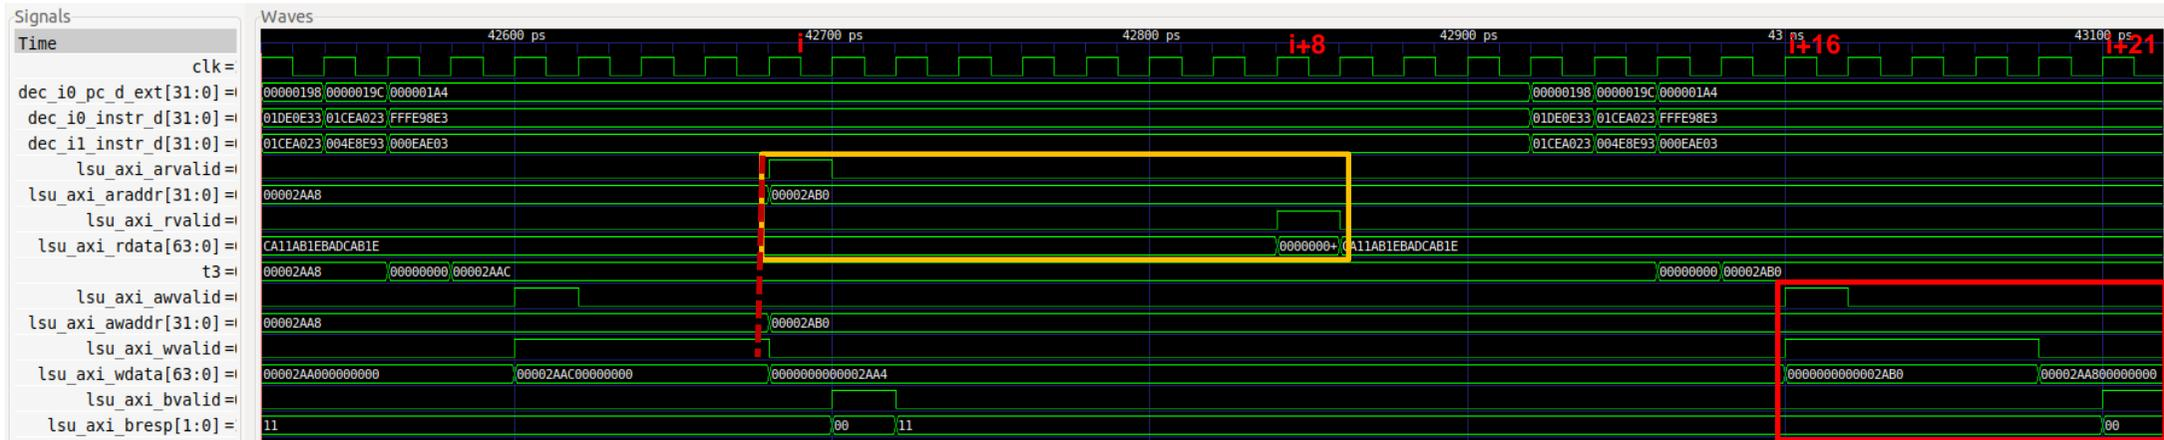
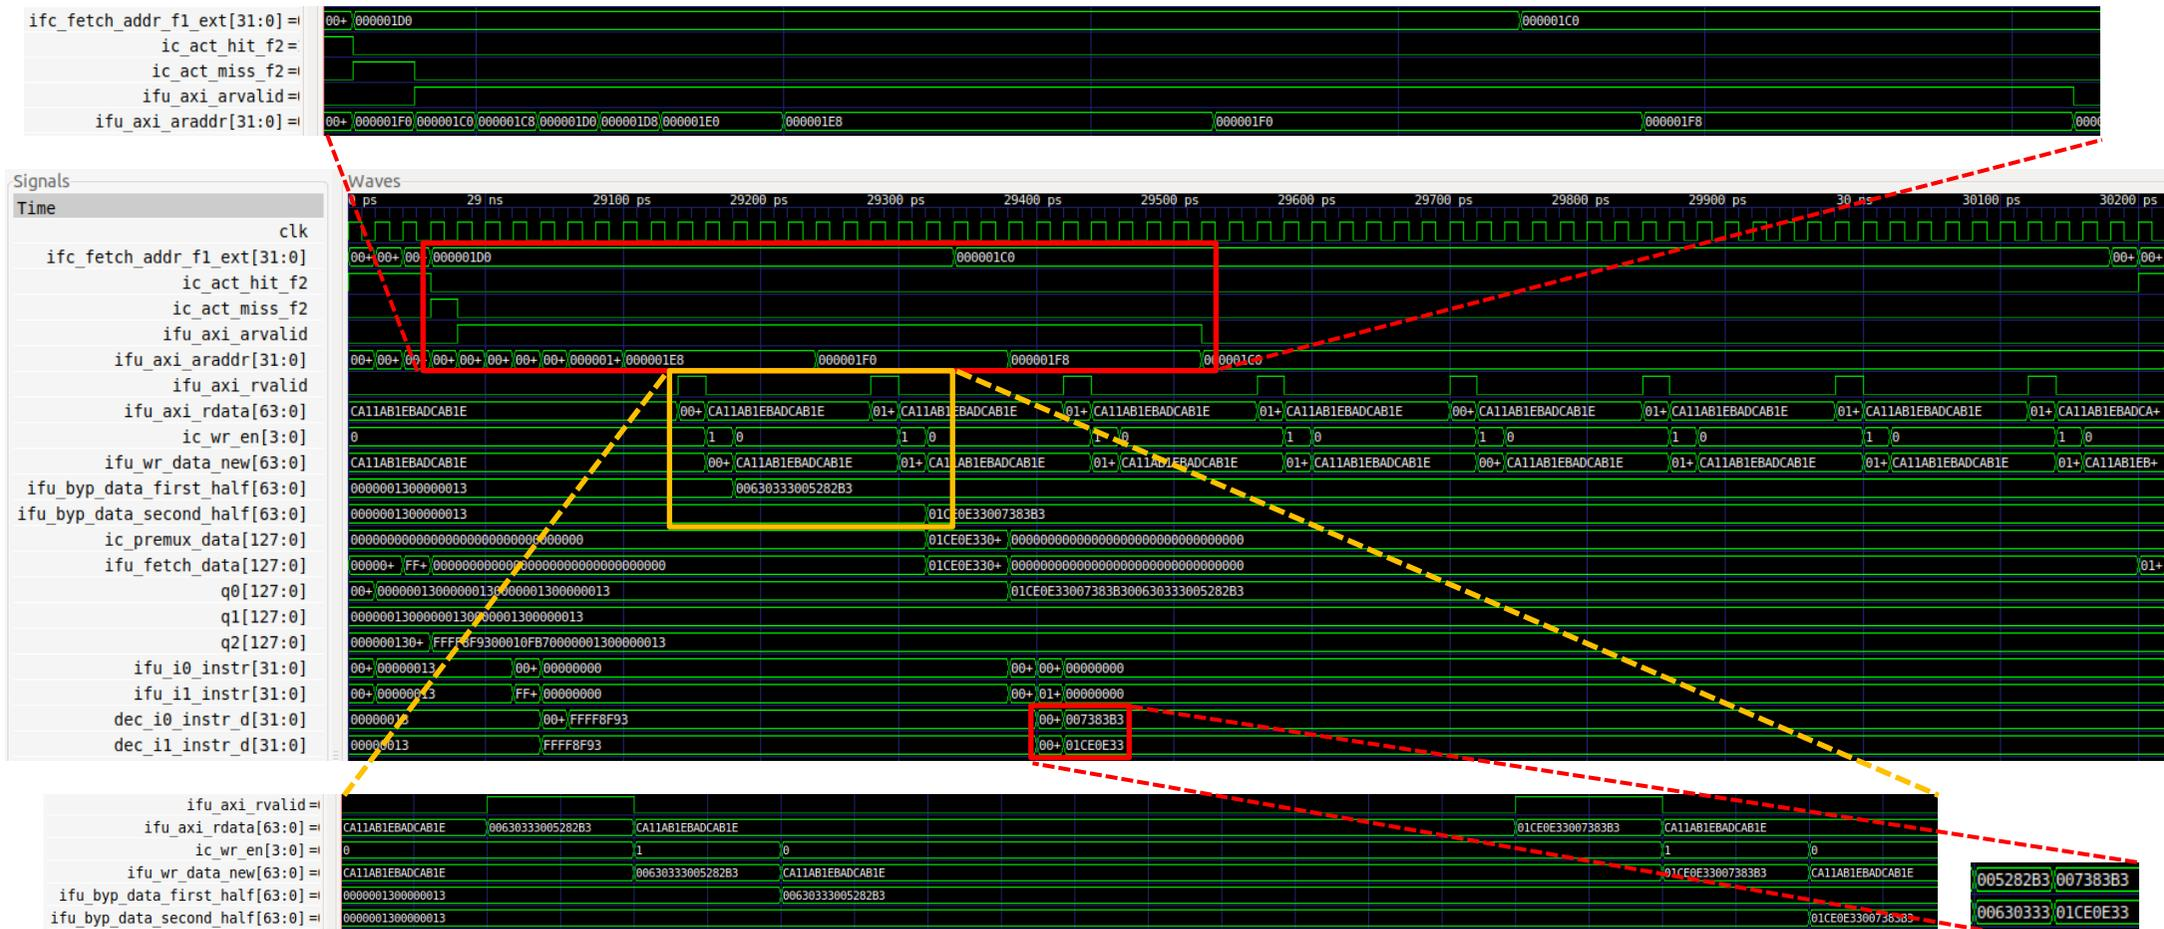
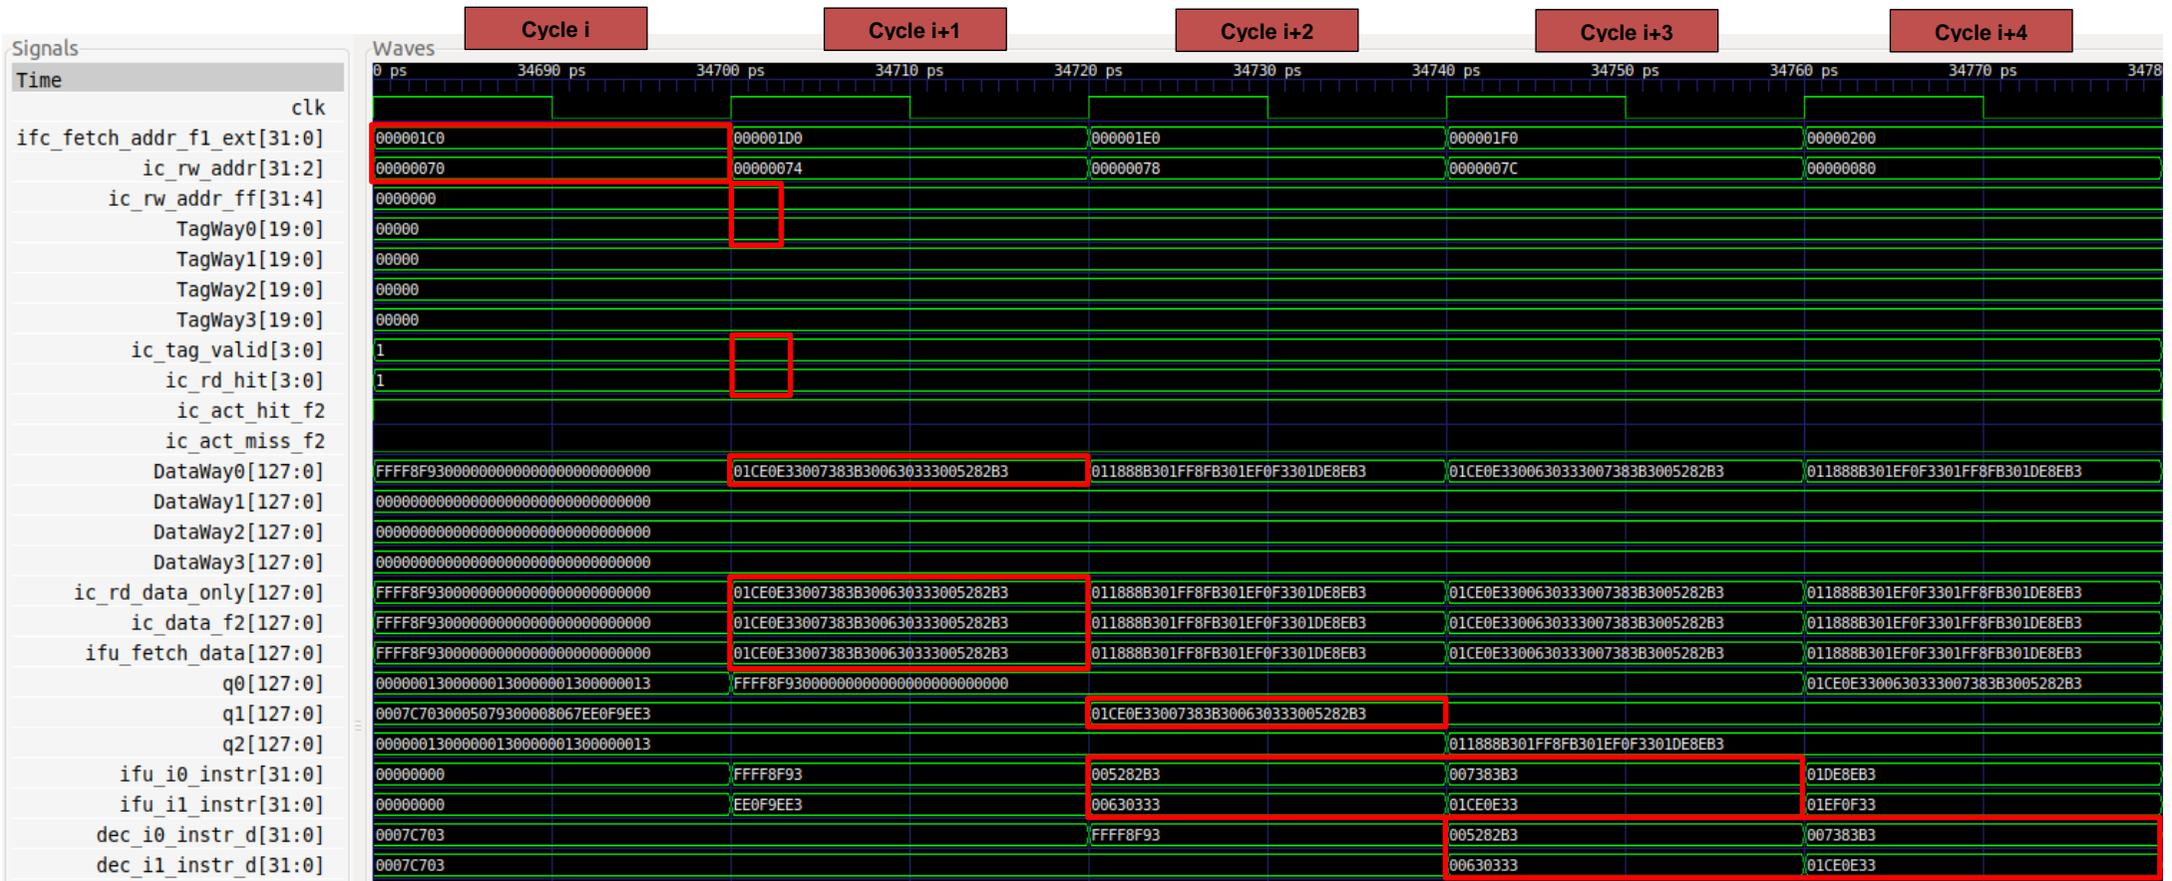
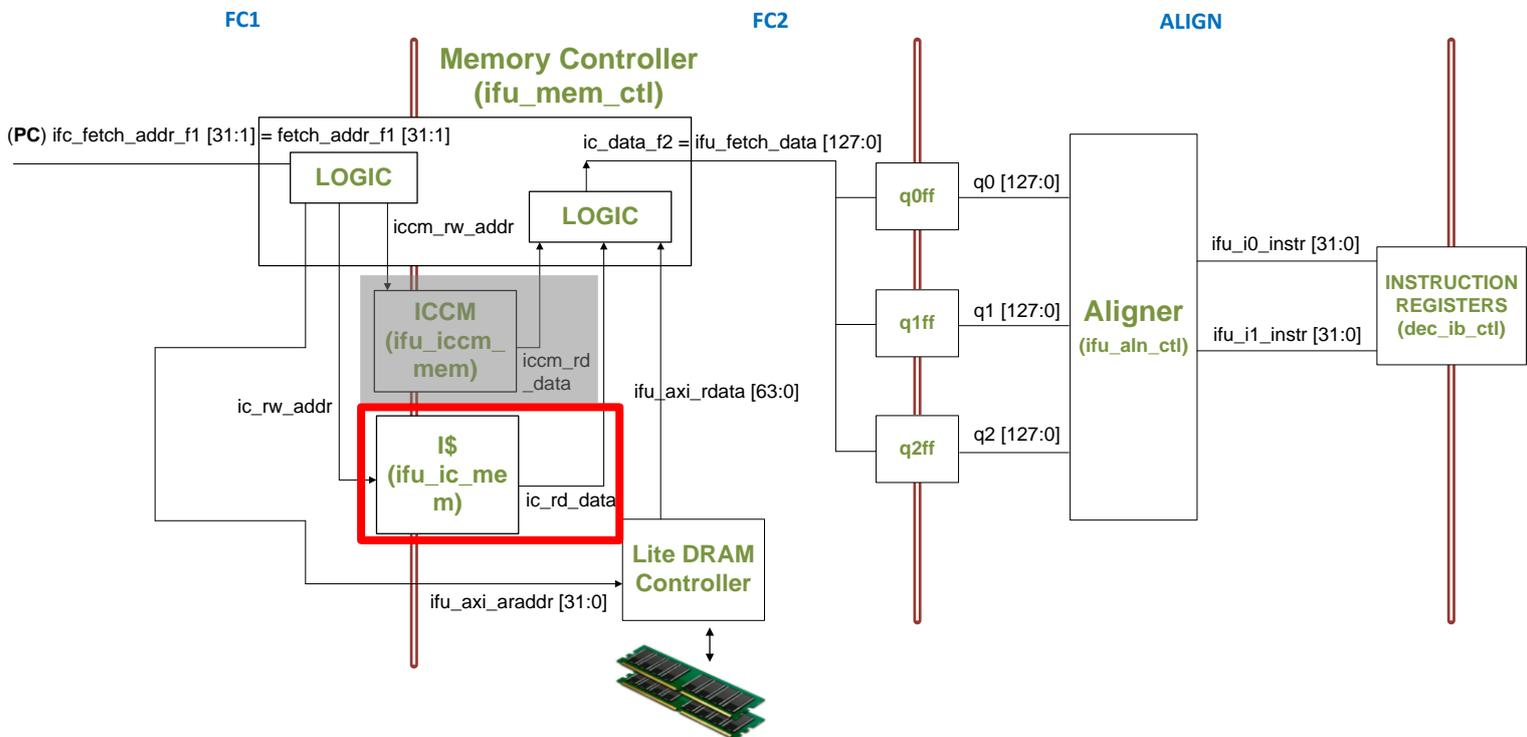

Figure 3. Simulation of a random iteration of the program from Figure 2
Figure 6. Simulation of the program from Figure 5 showing an I\$ miss
Figure 7. Simulation waveform for the program in Figure 5 illustrating an I\$ hit
Figure 8. FC1, FC2 and Align stages
Figure 3 shows the simulation of a random iteration of the loop from Figure 2.
- TASK:** Replicate the simulation from Figure 3 on your own computer. To do so, follow the next steps (as described in detail in Section 7 of the GSG):
TASK: Using the HW Counters, measure the number of cycles, instructions, loads and stores in the program from Figure 2. How much time in total (both for reading and writing) does it take to access the DDR External Memory? You can compare the execution when using the DDR memory as in Figure 3 and when using the DCCM (another PlatformIO project is provided at `[RVfpgaPath]/RVfpga/Labs/Lab19/LW-SW_Instruction_DCCM/`, which contains the same program prepared for reading from / writing to the DCCM). Remember that the simulated memory is not the same as the actual DDR memory on the Nexys A7 board, thus the read/write latency observed in the simulation and in the execution on the board differs.
TASK: A quite complex but very interesting exercise is to analyse the Memory Controller used in the RVfpga System. Remember that you can find the modules that make up this controller in folder `[RVfpgaPath]/RVfpga/src/LiteDRAM`, and that the top module is implemented in file `litedram_top.v` inside that folder. You can start with the simulation from Figure 3 and add and analyse some signals from the LiteDRAM controller.
Figure 4. I\$ internal design. The input signal to the I\$ (ic_rw_addr) and the output signal from the I\$ (ic_rd_data) is provided from/to the Cache Controller (module ifu_mem_ctl), as we explained in Figure 3 of Lab 11 (repeated below as Figure 8).
Figure 6 shows the simulation of the region around the 16 `add` instructions (from 28900 ps to 30220 ps). The figure in the middle (main one) shows the execution of the region of interest for our analysis. The figures on the top and the two on the bottom zoom into specific regions of the main figure.
TASK: Replicate the simulation from Figure 6 on your own computer. To do so, follow the next steps (as described in detail in Section 7 of the GSG):
[RVfpgaPath]/RVfpga/Labs/Lab19/InstructionMemory_Example) for opening the same signals as the ones shown in Figure 6. For that purpose, on GTKWave, click on *File* → *Read Tcl Script File* and select the *test1_Miss.tcl* file.
- o Each of the eight 64-bit chunks (each containing two instructions) is provided in signal `ifu_axi_rdata` (this cannot be seen in Figure 6 – you can replicate the simulation on your computer to verify it):
In this section we work with the same example from Section 3.B (Figure 5), but we now focus on analysing I\$ hits. Figure 7 shows the second iteration of the loop when executing the program in Figure 5 (any iteration would be valid except the first one, which, as we analysed in Figure 6, experiences misses in the I\$).
TASK: Replicate the simulation from Figure 7 on your own computer. Use file `test1_Hit.tcl` (provided at `[RVfpgaPath]/RVfpga/Labs/Lab19/InstructionMemory_Example`). Zoom In () several times and move to 34680ps.
Analyse the simulation waveform in Figure 7, which includes some of the signals from Figure 3 of Lab 11 that explained the FC1 and FC2 stages. We repeat a diagram of those stages in Figure 8 below, for convenience. The simulation also includes some of the signals shown in Figure 4 of the current lab. Note that Figure 4 shows the I\$ design, which is shown as a black box in Figure 8 below.
The i\$ hit occurs as follows, as shown in Figure 7:
Note that the signal that is shown in Figure 8 is `ic_rd_data`, which is the same as `ic_rd_data_only` plus the parity information.
These 128 bits are propagated to the Align stage as shown in Figure 8.